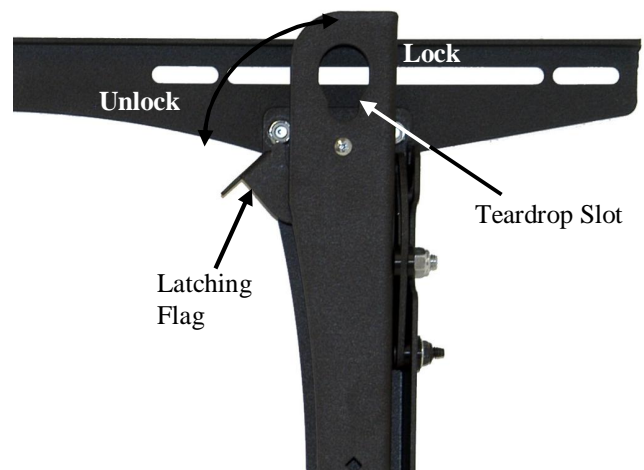

Figure 9. Raise Latching Flag to Lock
2. Raise the latching flag to secure the display (see Figure 9). If the flag does not fully engage, check to ensure the mounting buttons are fully seated in the slots.
2. Lower the latching flag to unlock the display (refer to Figure 9).